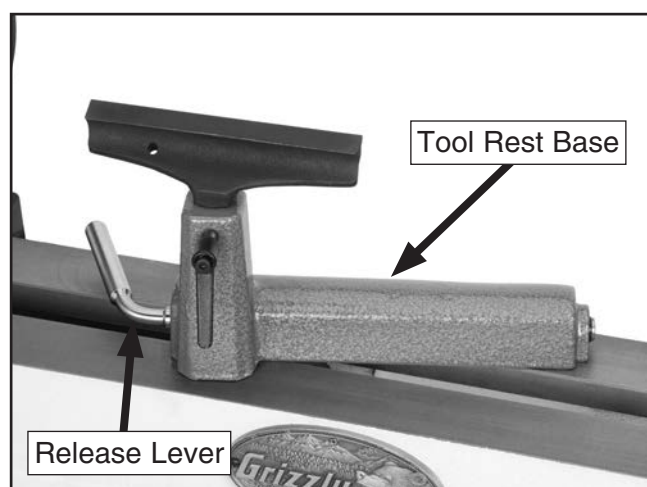

Figure 32. Safe tool rest position.
3. Release the tool rest base release lever so the tool rest moves freely, then position the tool rest so the entire base sits on the lathe bed. This will prevent the tool rest from falling when the lock nut is removed (**Figure 32**).